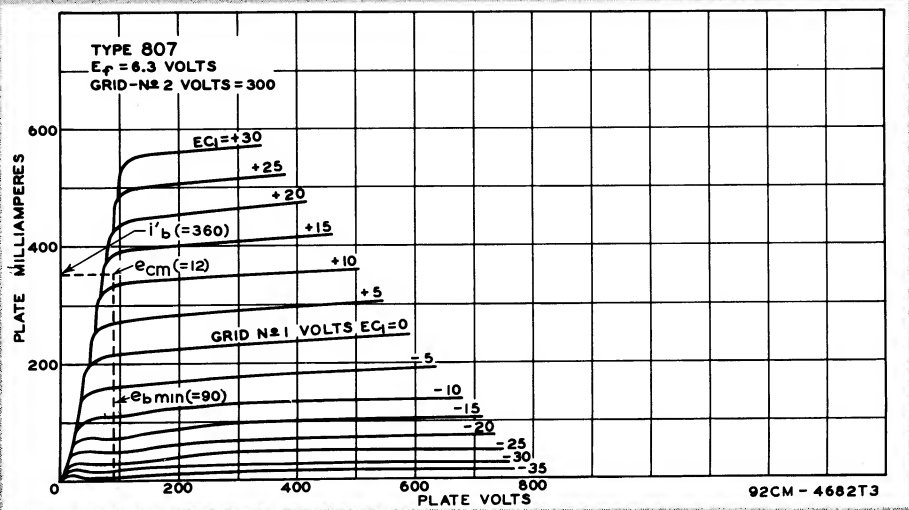
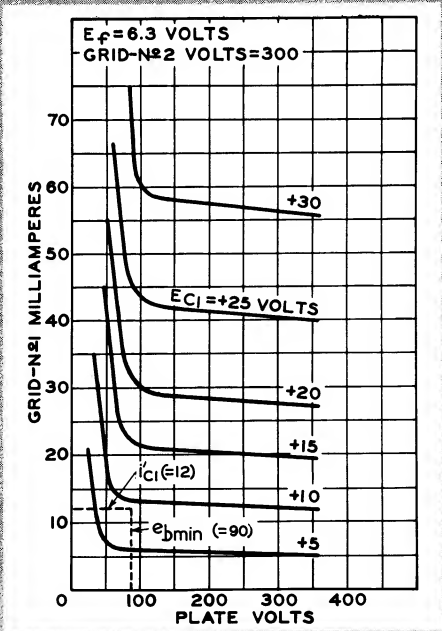

Fig. 1. Average plate characteristics for the type 807 tube (grid-No. 2 voltage = 300).
Fig. 2. Average control-grid characteristics for the type 807 tube grid-No. 2 voltage = 300).
4. From the 300-v E_{c2} curves, Fig. 1, select $e_{bmin} = 90 \text{ v}$, and read $e_{cm} (= +12 \text{ v})$. From Figures 2 and 3, read $i'_{c1} = 12 \text{ ma}$, and $i'_{c2} = 35 \text{ ma}$, respectively.
10. E_{c1} (from Fig. 1) = -35 v.